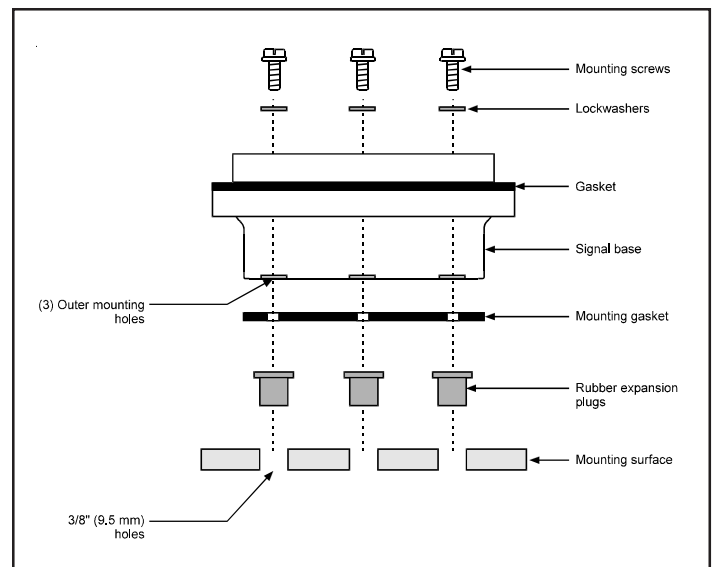

Figure 4. Direct Surface Mounting of 97 Series Signals
- Install the three rubber expansion plugs provided in the hardware kit into the three outer holes in the mounting surface as indicated in Figure 4.
- Align the holes in the mounting gasket with the holes in the signal base. Insert the three screws with lockwashers (provided in the hardware kit) through the three mounting holes inside the signal base and align the screws with the rubber expansion plugs as shown in Figure 4. Press the signal base firmly against the mounting surface and tighten the screws. Proceed to step 3.